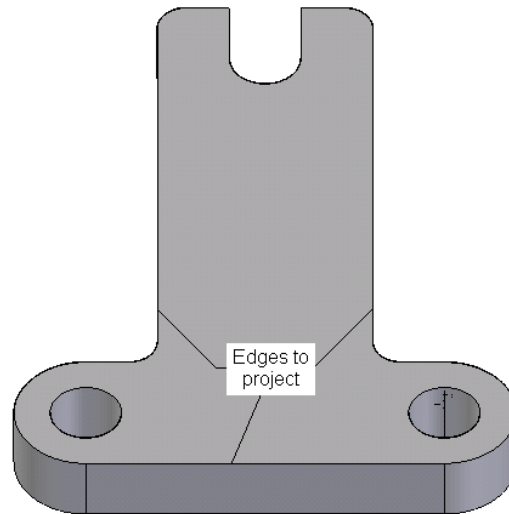

Figure 5-72 Selecting the entities to project
4. Select the edge through which the angled plane will pass, refer to Figure 5-72.